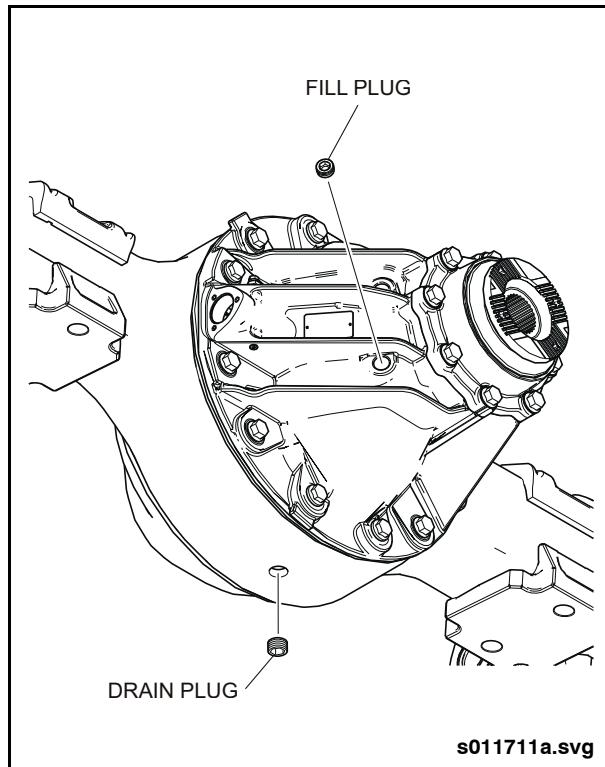

Fig. PM-36: Rear Axle Drain & Fill Locations
3. Remove the fill plug from the front of the differential housing. See "Fig. PM-36: Rear Axle Drain & Fill Locations" on page 75.